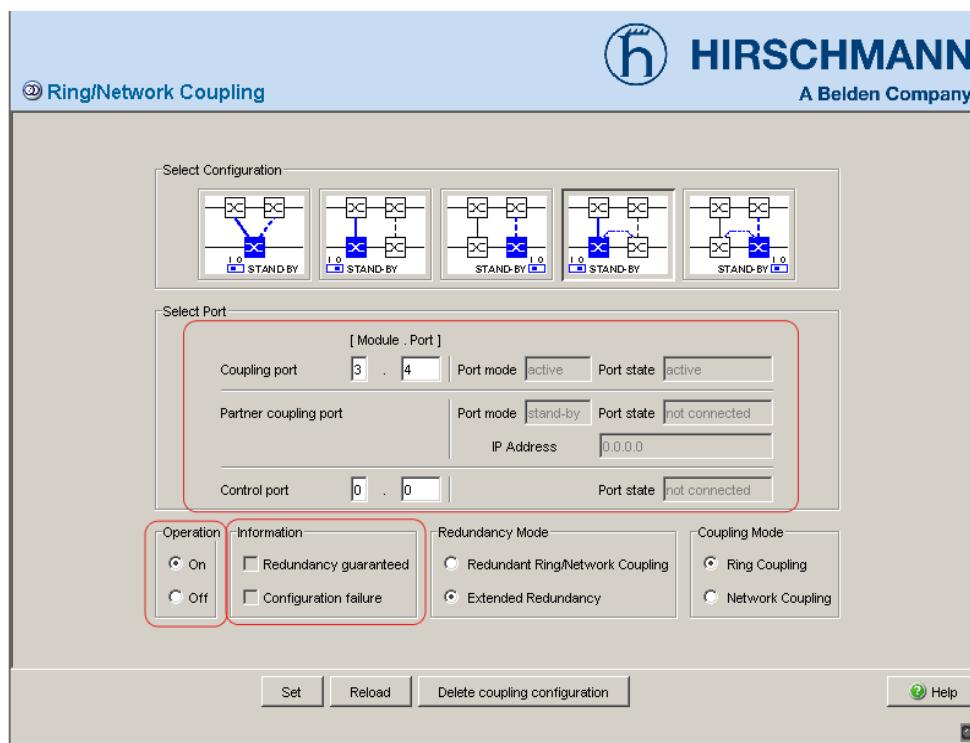

Figure 22: Selecting the port and enabling/disabling operation
- Select the coupling port (see fig. 22), (see table 10).
- Select the control port (see fig. 22), (see table 10).
- Activate the function in the “Operation” frame (see fig. 22).
The displays in the “Select port” frame mean (see fig. 22):
The displays in the “Information” frame mean (see fig. 22):